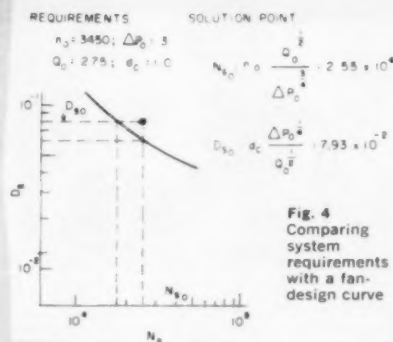

Fig. 4 Comparing system requirements with a fan design curve
For simplicity, consider first only a single fan design in relation to a specified pressure,⁴ flow, rpm, and maximum characteristic diameter. By means of Eqs. (1) and (2) these four specifications convert into a single point in the N_s - D_s plane. This point is then compared with the fan-design curve also plotted in the N_s - D_s plane to determine if the design is applicable, as illustrated in Fig. 4. If the specification point falls below the fan-design curve, a solution is unobtainable. When the solution point falls on the fan curve, the characteristic diameter of this particular fan design is just equal to the specified maximum. If it falls above the fan curve, the fan diameter will be less than the specified maximum. Since D_s is directly proportional to fan diameter, the required fan size is obtained by a simple proportion of the D_s intercept along the fan curve to the D_{s0} solution-point value. The procedure is illustrated in the following, using the values corresponding to Fig. 4.
The fan running at the lowest rpm, rather than the smallest fan, is obtained from the intercept of a constant D_s line through the solution point with the fan curve. The fan prorated from this point will just be equal to the maximum specified size and run at the lowest rpm which can develop the desired performance with the design in question. The minimum rpm can be found immediately by the ratio of the intercept to solution-point specific speeds times the solution-point rpm. For the example of Fig. 4 the minimum rpm is